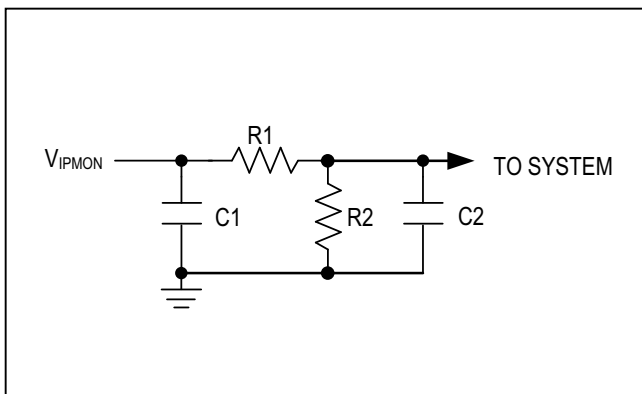

Figure 2. External RC Network to Adjust V_{IPMON}
Adding an RC network at the IPMON output (Figure 2) allows the overall V_{IPMON} gain (G) to be adjusted per the following equation:
Figure 2 shows an ORing application where a resistive divider connected from IN1 at the \overline{PC} pin controls the turn-on of the ORing MOSFET, MD2, in the IN2 supply path. When the IN1 supply voltage falls below 4.5V, it turns on the ORing MOSFET, MD2, causing the ORing output to be switched from the main 5.0V supply at IN1 to the auxiliary 5.0V supply at IN2. This configuration permits the